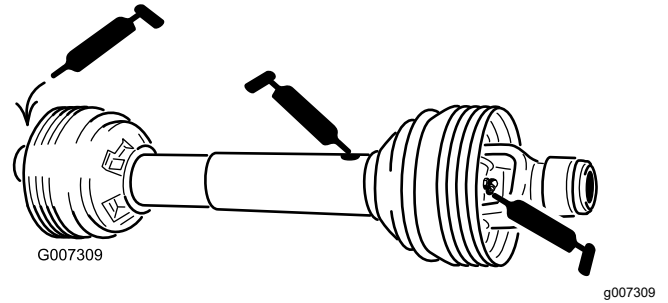

Figure 28
PTO driveshaft (3) (Figure 28)